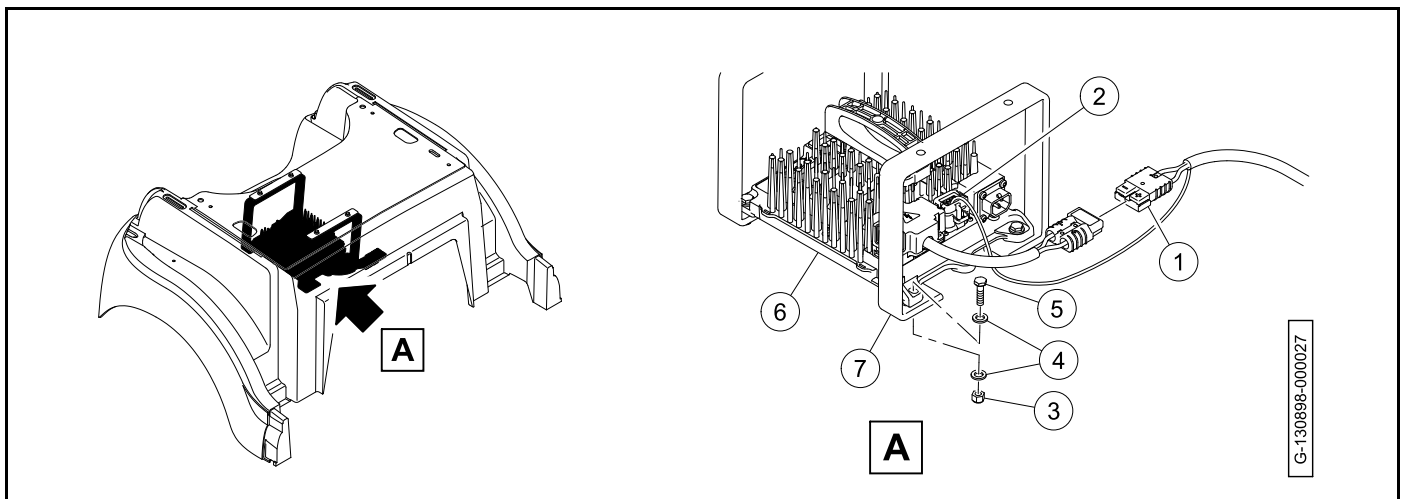

Figure 15-23 Onboard Charger
5. Disconnect the DC cord from the onboard charger harness (1) (Figure 15-23, Page 15-37).